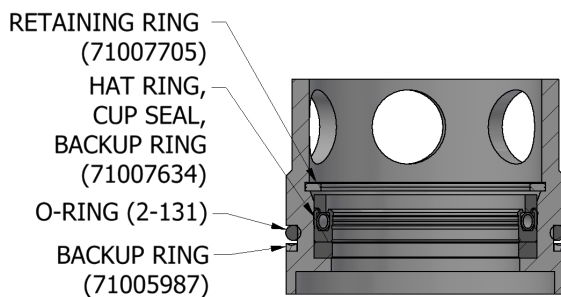

Figure 10 – Seat Retainer Assembly
- 12.15 Install the backup rings so that the contour faces the O-ring. Install the replacement backup rings and O-rings per Figure 10 .
- 13.2 Carefully remove the seat (see Figure 10). – *Brass hooked probe*